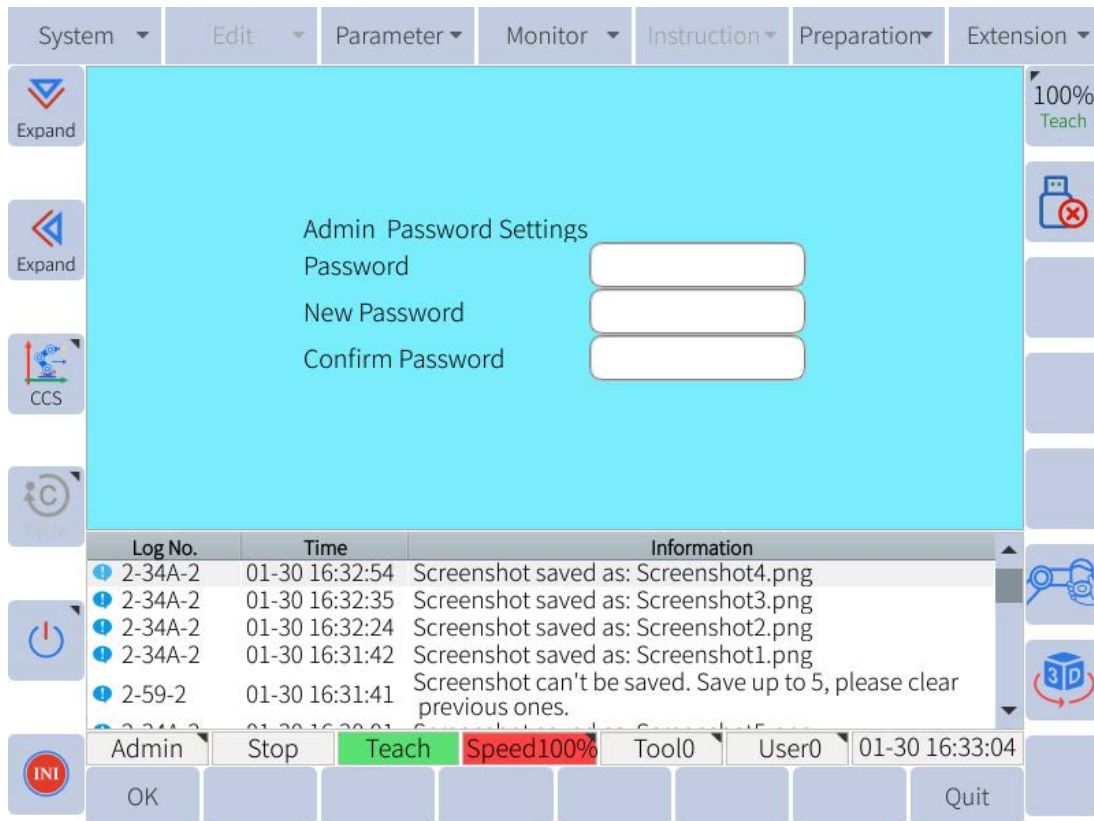

Figure 12-15 : Password page
**Figure 12-15** shows the page for modifying the administrator password. If the user wishes to modify the administrator password, they must have the administrator user level active. To modify the super user password they must have the super user level active, and so on.